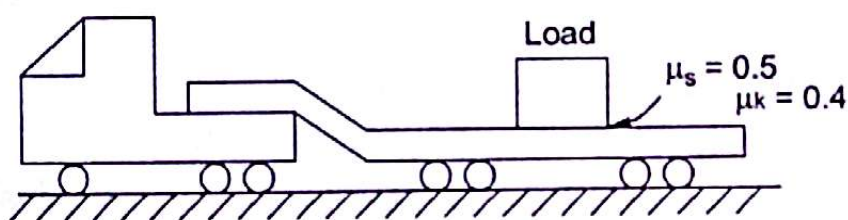

Fig. 20.8
- 20.1 The coefficient of friction between the load and flat bed trailer shown in Fig. 20.8, are $\mu_s = 0.40$ and $\mu_k = 0.30$. Speed of the rig is 15 m/s, determine the shortest time in which the rig can be brought to a stop if the load is not to shift.